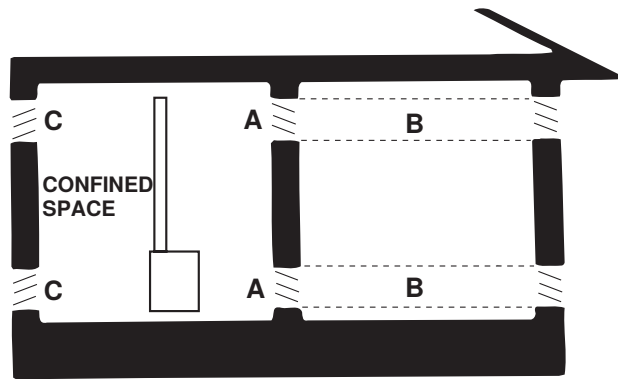

Figure 2. Confined Space Combustion Air Openings (Refer to Table 4)
- Even a slight leak can create a negative pressure condition in a confined space and can affect combustion. Do not install a unit in a confined space without providing wall openings leading to and from the space. Depending on the combustion air source, provide openings near the floor and ceiling for ventilation and air for combustion as shown in Figure 2 and as listed in Table 4.
*See Figure 2 .